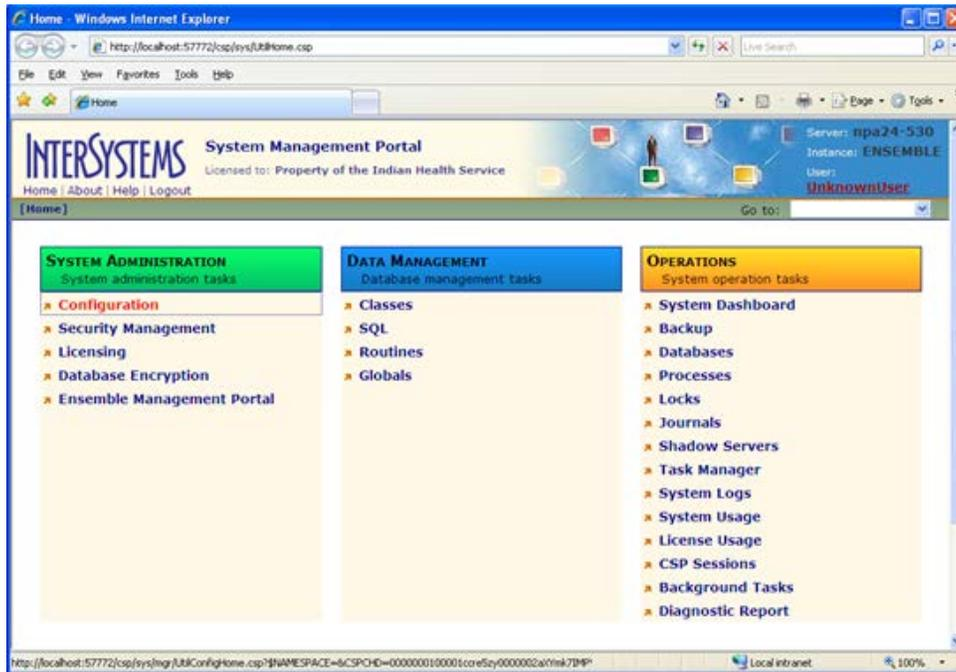

Figure 4-2: **System Management Portal** page
- Click the Ensemble cube in the system tray, and then click **System Management Portal** to open a browser window, as shown in Figure 4-2.